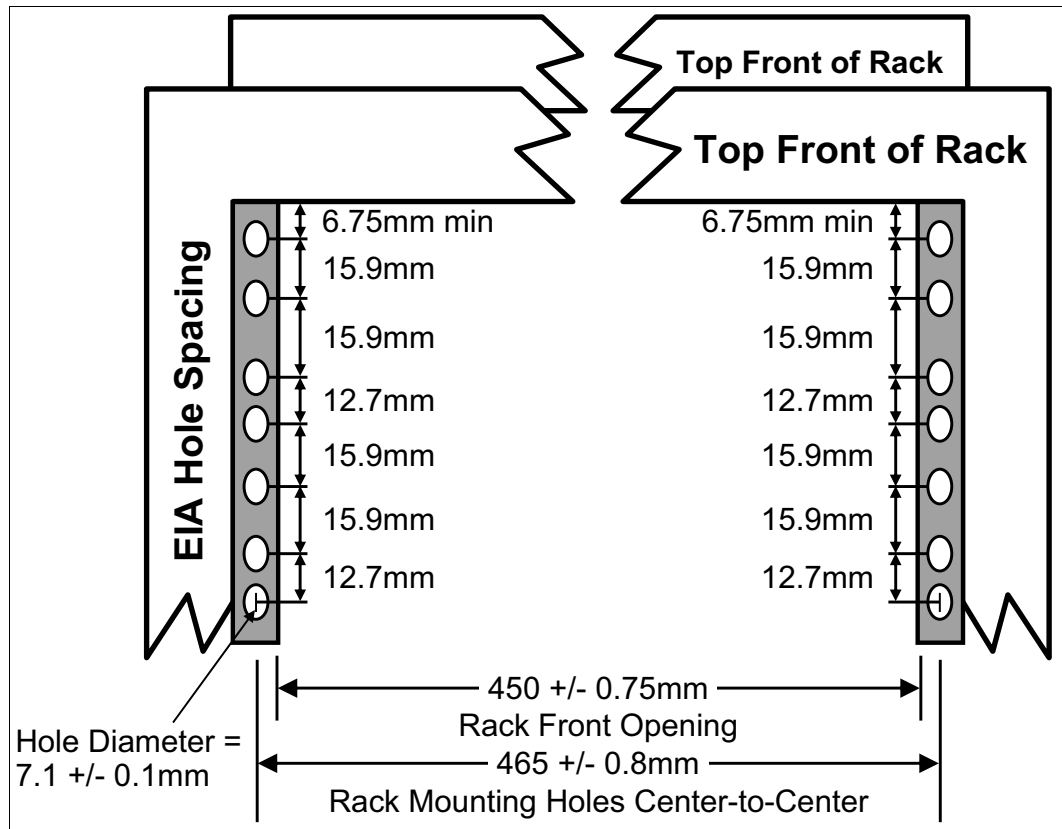

Figure 1-15 Top view of the rack specification dimensions (not specific to IBM)
- ▶ The front rack opening must be 451 mm wide ± 0.75 mm (17.75 in. ± 0.03 in.), and the rail-mounting holes must be 465 mm ± 0.8 mm (18.3 in. ± 0.03 in.) apart on-center (that is, the horizontal width between the vertical columns of holes on the two front-mounting flanges and on the two rear-mounting flanges). Figure 1-15 is a top view showing the specification dimensions.